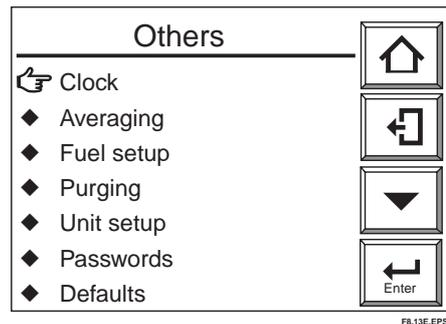

Figure 8.15 Other Settings
- (1) Press the Setup key in the Basic panel display to display the Execution/Setup display.
- (2) Select Setup in the Execution/Setup display to display the “Commissioning” (Setup) display.
- (3) Select Others in the “Commissioning” (Setup) display. The Others display then appears, as shown in Figure 8.15.
- (2) Select Setup in the Execution/Setup display to display the Commissioning" (Setup) display.
- (3) Select Others in that display and then select Averaging in the Others display. The averaging display shown in Figure 8.15 then appears.
- (4) Choose "Set period over which average is calculated" and enter the desired numeric value from the numeric-data entry display. To enter three hours, type in 003. The period over which average values can be calculated ranges from 1 to 255 hours.
- (5) Choose "Set period over which maximum and minimum is stored" and enter the desired numeric value from the numeric-data entry display. To enter 48 hours, type in 048. The allowable input ranges from 1 to 255 hours.